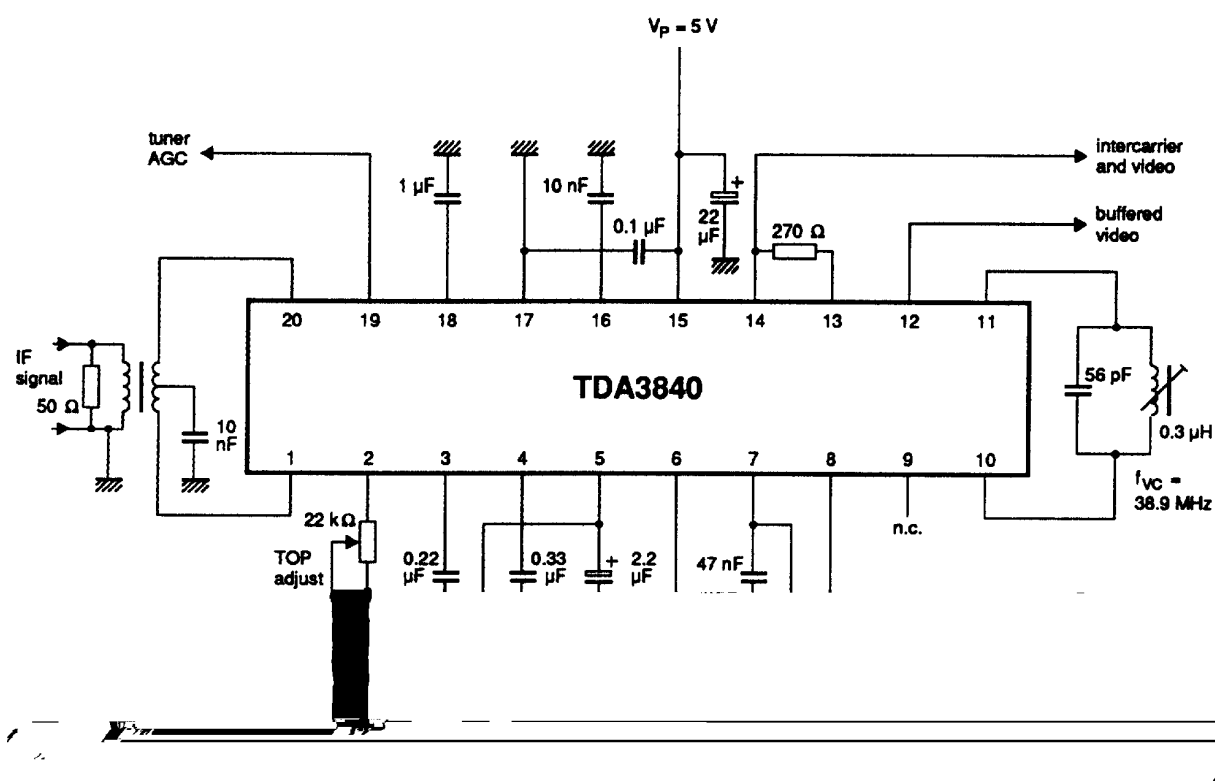

Fig.4 Test circuit.
$V_P = 5\text{ V}$ and $T_{amb} = 25\text{ °C}$; $f_{VC} = 38.9\text{ MHz}$; all voltages are measured to GND (pin 17); measured in test circuit of Fig.4; unless otherwise specified.
3. IF input signals are RMS values measured at TOP sync (standard B/G) and with a vision carrier of 38.9 MHz (see Fig.4). The IF input signal is fed from 50 Ω via a 1:1 transformer, DSB, to pins 1 and 20. With a 10 mV_{RMS} IF input signal, the residual vision carrier is: = 10 % for white (standard B/G).
4. In the test circuit of Fig.4, measured and weighted according to CCIR Recommendation 567: